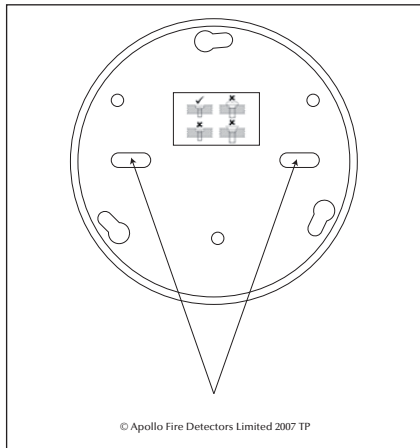

Fig 1 Mounting details
2. The ceiling mounting plate must be fitted using both mounting holes and **suitable fixings or fasteners. (Fig 1)**